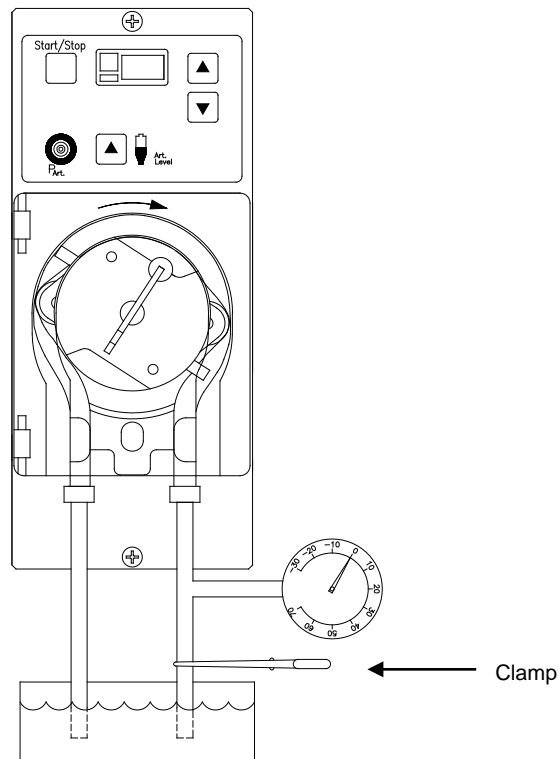

Figure 7. Blood Pump Rotor Occlusion Test
- Connect a pressure gauge to the bloodline in the pump (See Figure 7) and allow the rotor to pull up 37°C ± 1.5°C water. Let this fluid flow past the pressure gauge long enough to clear out air.
- With the pump running at 600ml/min, clamp the outlet so that the pressure gauge is between the output of the pump and the clamp (See Figure 7). The peak pressure on the gauge must be between 25 and 35psi. If the peak pressure is out of range, replace the blood pump rotor springs (part number 650174).